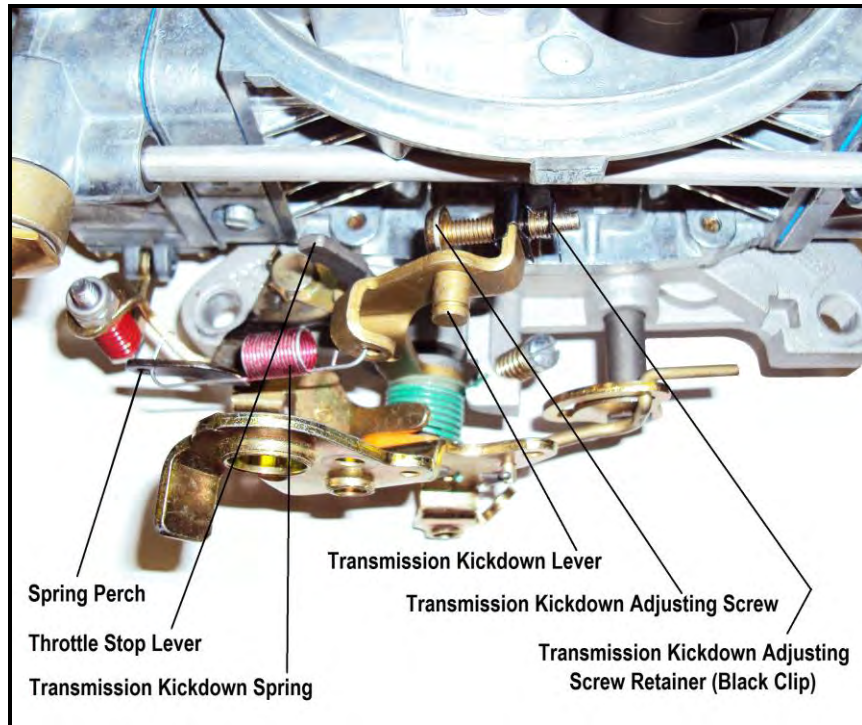

**Figure 1—Chrysler applications**
1. If you are replacing an existing Holley carburetor, you may need to purchase and install a throttle lever extension (Holley P/N 20-7) on the carburetor. Remove the throttle stud and nut from the original carburetor. You can purchase a new stud from your Holley dealer (Holley P/N 20-67). Install the stud in the throttle extension lever (Figure 1).